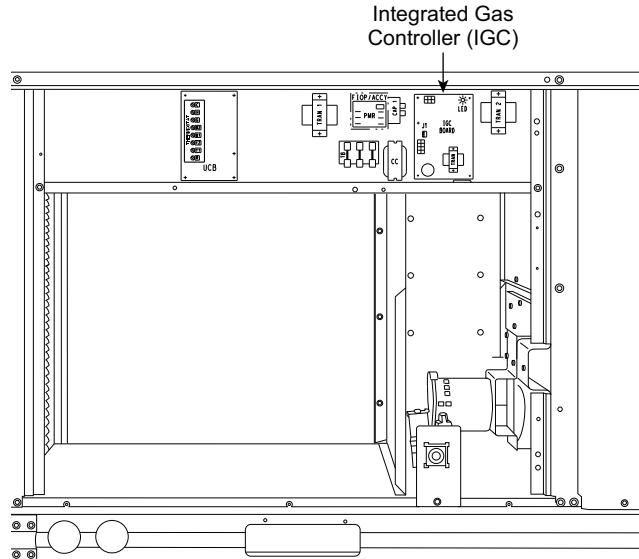
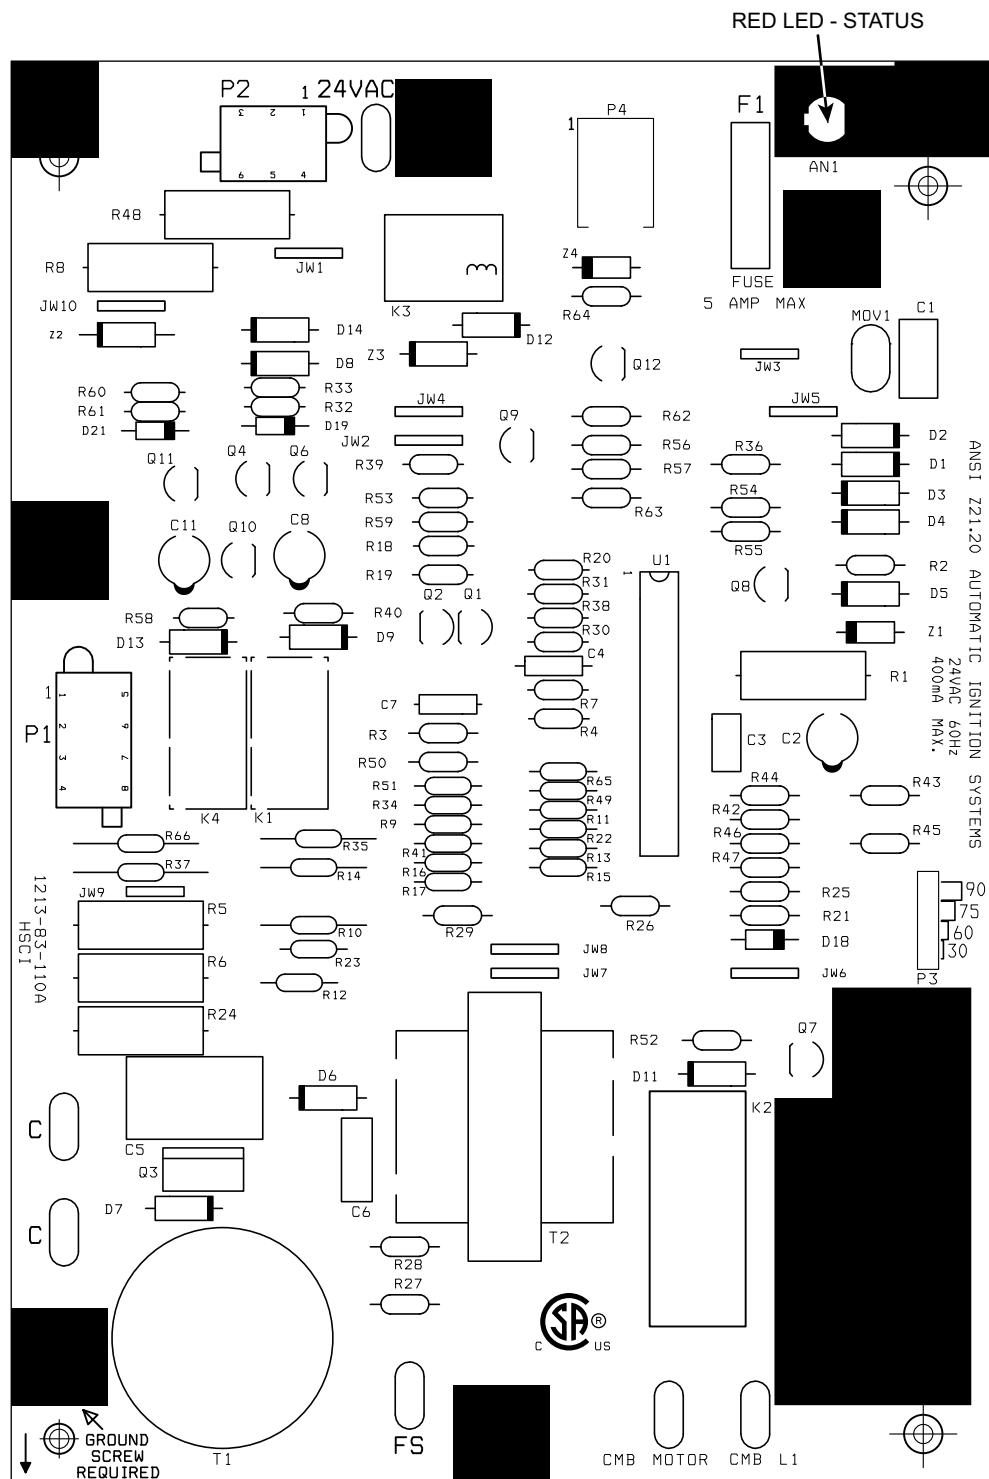
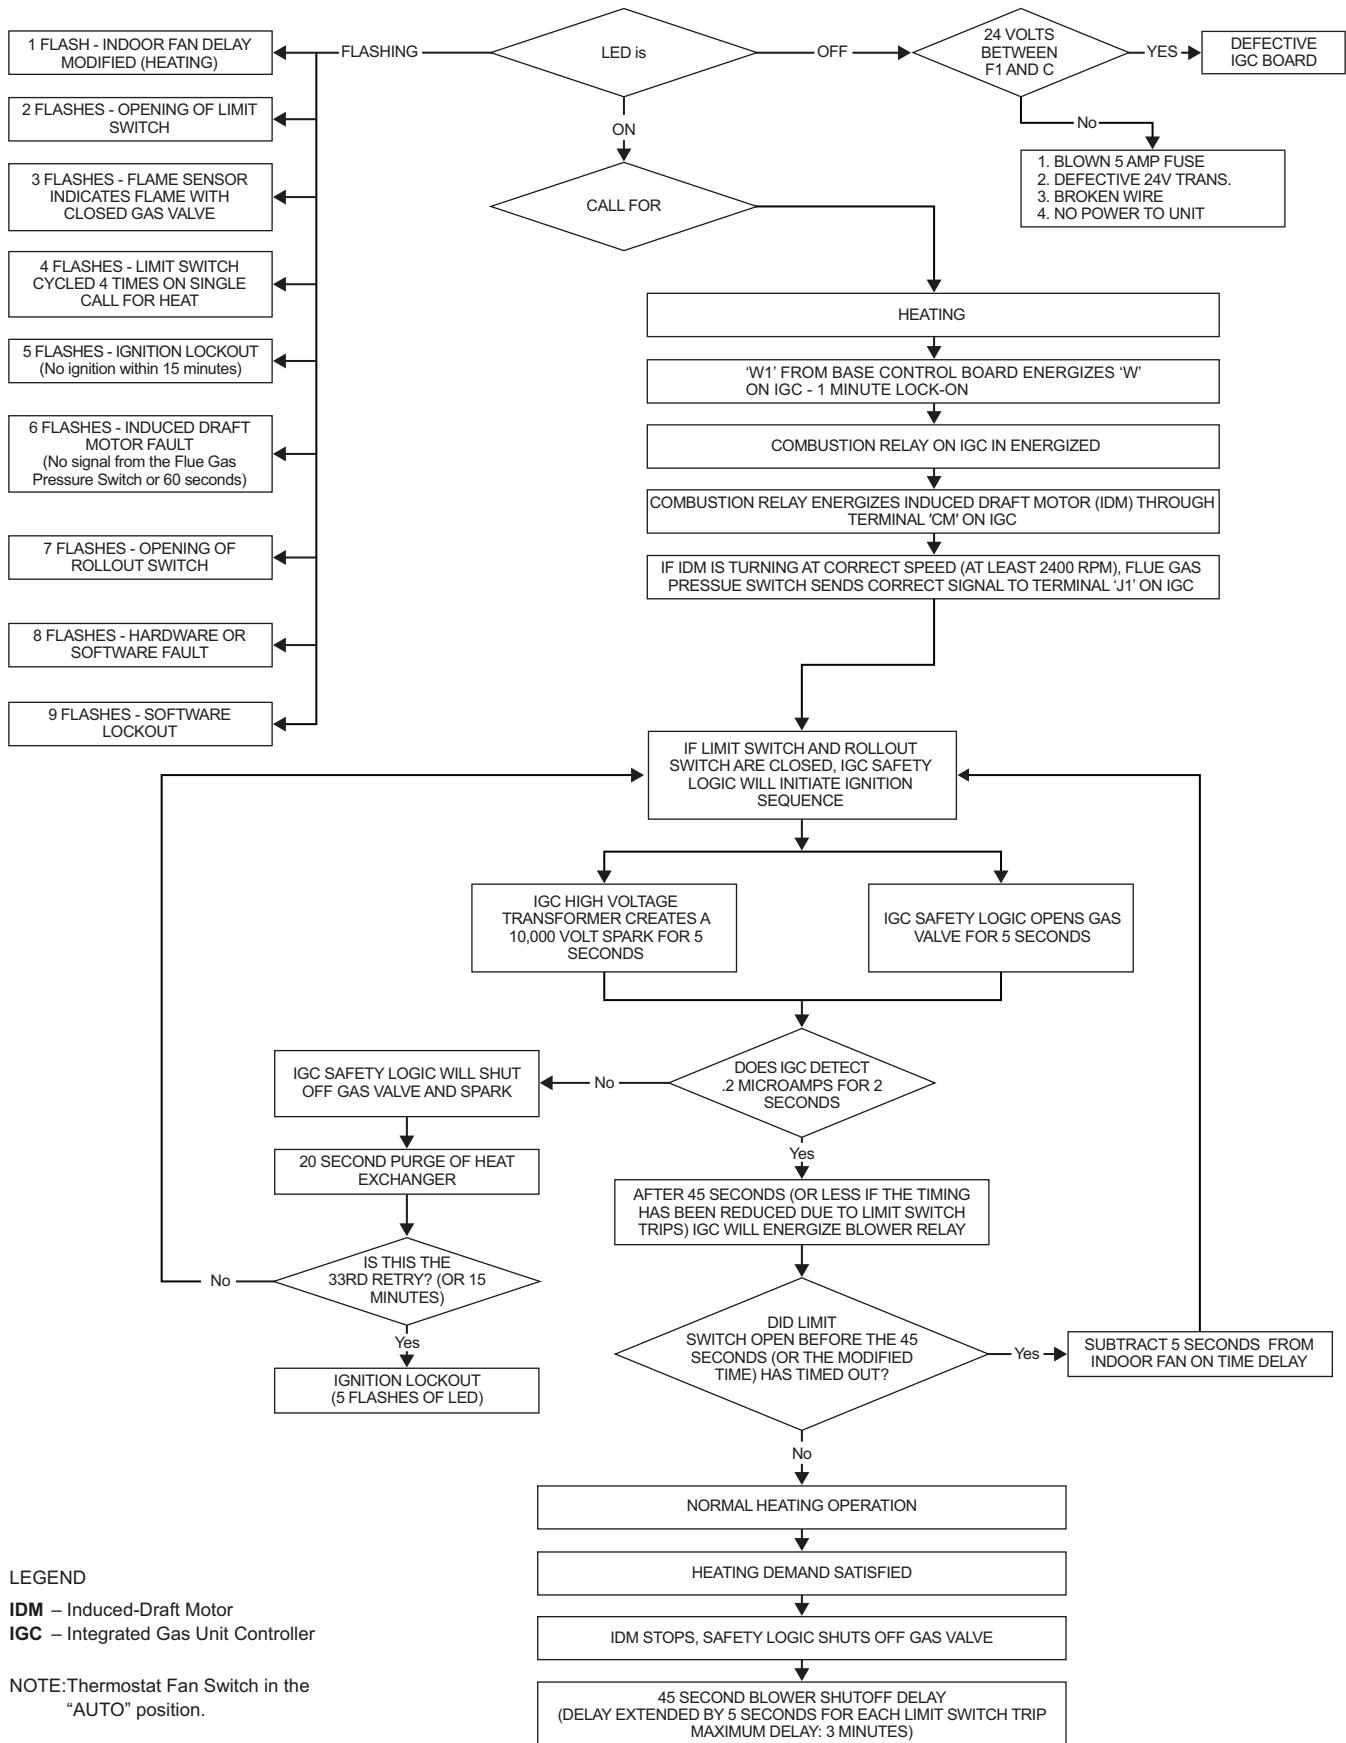
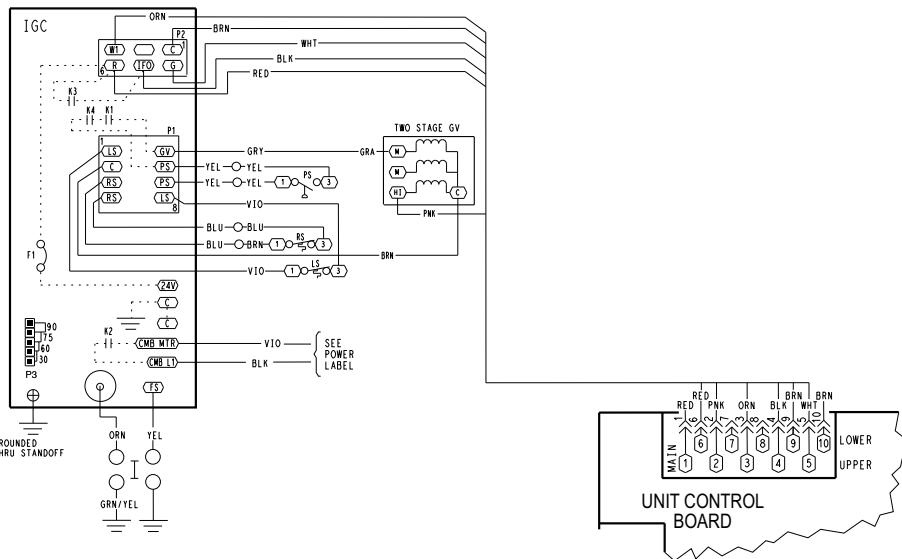

Fig. 53 — Unit Control Box/IGC Location
Fig. 56 — Integrated Gas Control (IGC) Board
Fig. 58 — IGC Service Analysis Logic
Fig. 59 — Typical IGC Control Wiring Diagram
8. Remove igniter wires and sensor wires at the Integrated Gas Unit Controller (IGC). (See Fig. 53.)
Unit is equipped with a direct spark ignition 100% lockout system. The Integrated Gas Unit Controller (IGC) is located in the control box (see Fig. 53). See Fig. 59 for typical IGC board wiring diagram. The IGC contains a self-diagnostic LED (light-emitting diode). A single LED (see Fig. 56) on the IGC provides a visual display of operational or sequential problems when the power supply is uninterrupted. Figure 58 provides an overview of the IGC Service Analysis Logic. When a break in power occurs, the IGC will be reset (resulting in a loss of fault history) and the indoor (evaporator) fan ON/OFF times will be reset. The LED error code can be observed through the view port. During servicing, refer to the label on the control box cover or Table 12 for an explanation of LED error code descriptions.